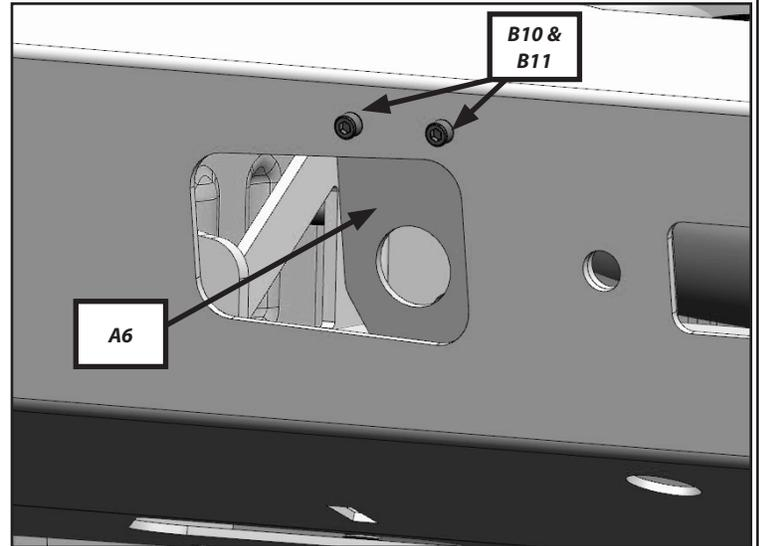

Figure 9
20. If your Bronco is equipped with front parking sensors, install the two sensor brackets (A6) using two 10-24 screws (B10) and lock nuts (B11) as shown in Figure 9. Repeat for other side. **NOTE: If your Bronco is not equipped with parking sensors, exclude sensor brackets.**